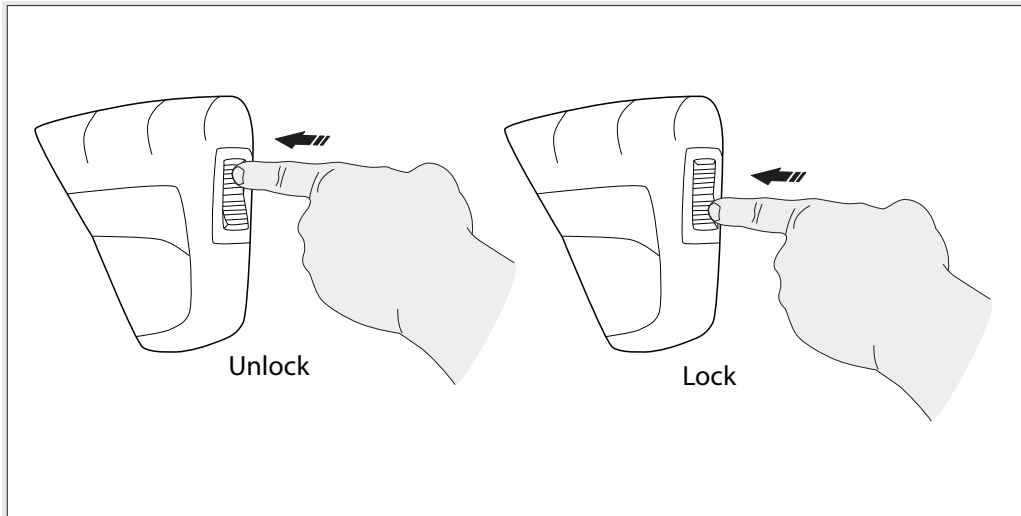

Fig. 7
- To lock the trigger of the spray gun point the gun away from you and press the lock button to the front of the gun, (**Fig. 7**), after doing so, squeeze or pull the trigger and it will be locked and will not move. Always leave lock button in lock position when not in use. This ensures the gun is in “safe” mode until it is ready for use. Press the lock button back to unlock.